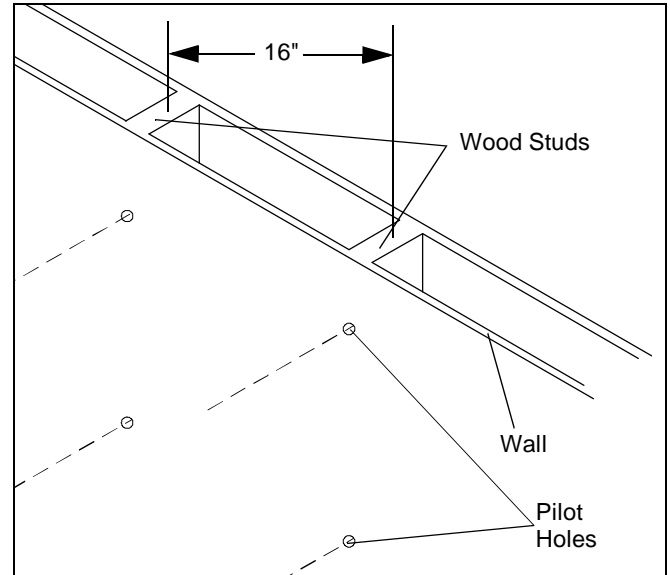

Figure 1
7. Drill two pilot holes using a 9/32" drill bit where the mounting holes were marked for anchoring the top bracket. See Figure 1.
8. Install two 3/8" x 2-1/2" lag bolts (50) and two 3/8" flat washers (60), through PNR Top Bracket and into upper pilot holes.